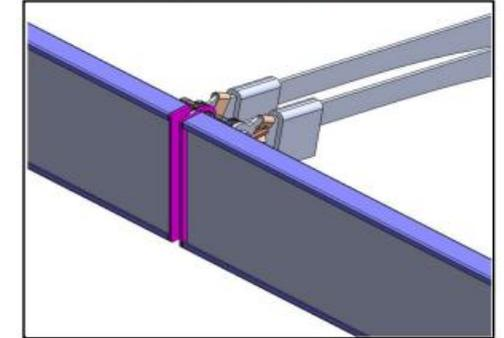

Figure 4
- b. Ensure the header clip is pushed up against the back of the U-Clips (See Figure 4).